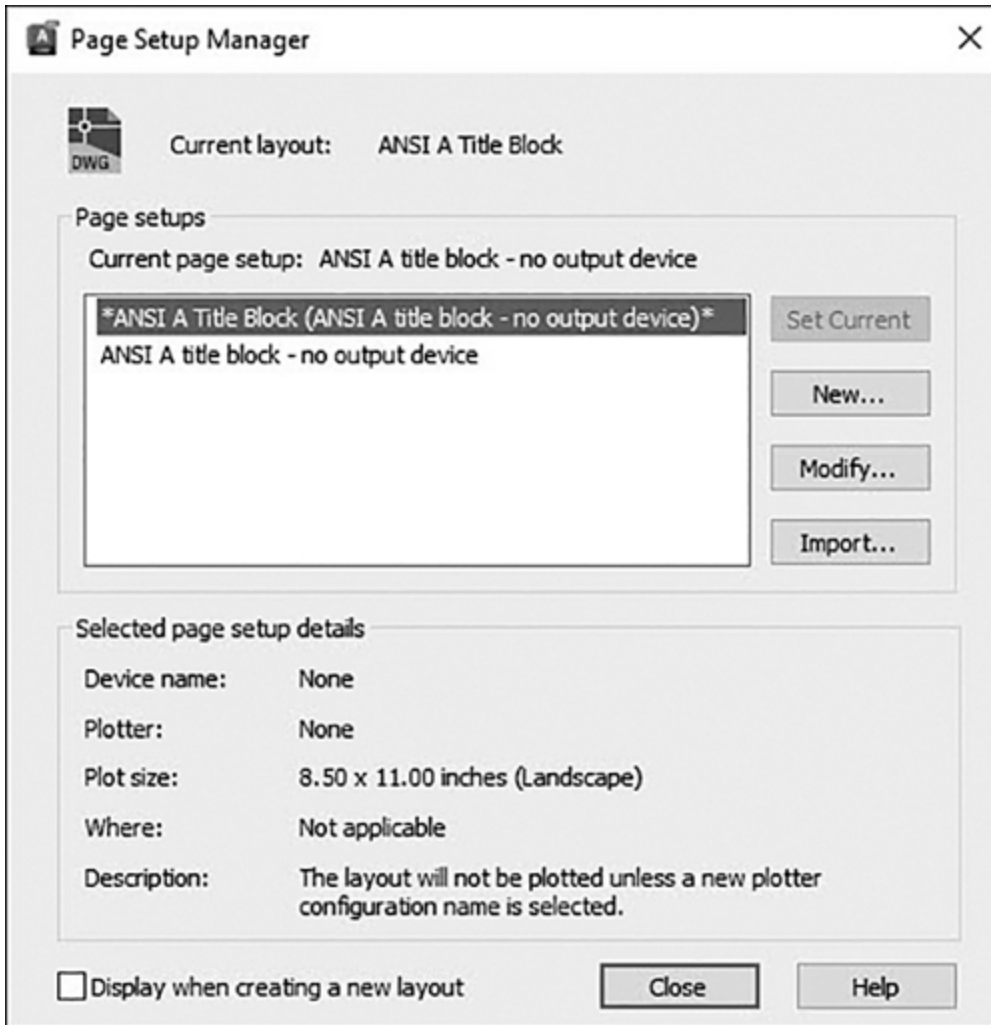

Figure 2-58
- 2** Choose **Page Setup Manager** from the **Plot** panel. This displays the **Page Setup Manager** dialog box shown in Figure 2-58.